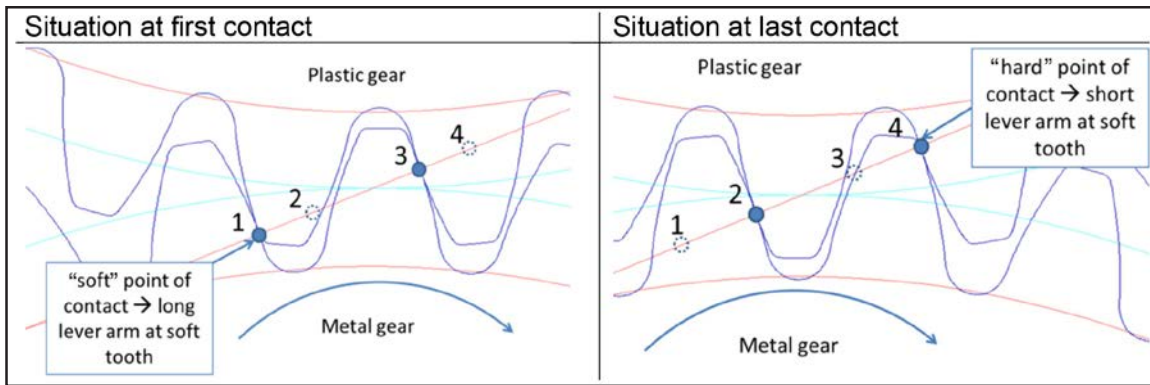

Figure 1 Metal gear as driving gear.
more stiff contact positions are engaged. This is essentially for a steady transmission; as can be seen (Fig. 1), the lever arm at position 1 for the plastic gear is much longer than at position 4. This means that the stiffness decreases for contact at pos. 1 and increases until the end of contact at pos. 4 — if just one pair of teeth should be in contact. In fact, it must be taken into account that the change of the number of teeth in contact means that positions with two teeth in contact are stiffer than positions with one pair of teeth in contact. Therefore the contact situation slightly after point 2 is the softest position, because one tooth is in contact and the soft plastic gear has the high leverage arm. It can be generally stated that the changes in the stiffness are much higher in the metal-and-plastic combination, because in a geartrain there is always a long bending lever arm at one tooth paired with a short one at the opposite.
As can be seen (Figs. 1–2), there is also a significant, principal difference if the metal part is the driving gear or the driver. In a situation where metal is the driving gear, shortly before the next pair of teeth will engage (point 1), the gear mesh is not so soft, because at point 3 there is a short leverage at the soft tooth. Conversely, when plastic is the driver, shortly before the next pair of teeth makes contact there is a low stiffness and high bending in the mesh. That’s because here, point 3 is a point of really low stiffness/high leverage at the soft tooth). Therefore for a geartrain in which plastic is the driver, the impact when the next teeth are coming into contact is much higher than when metal is the driver. In this case a tip modification at the metal gear has to be defined relatively large and carefully—to avoid both excessive noise generation and pressure-related failure modes.